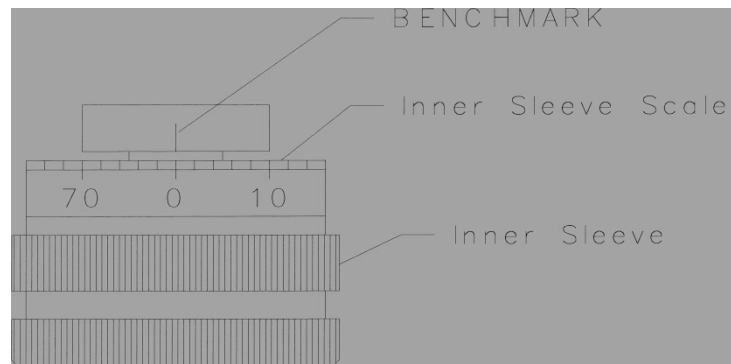

Fig. 10 Tool positioning knob
B Hold the tool positioning knob to keep it from turning and adjust the inner sleeve until zero or one of the reference numbers on the scale aligns to the benchmark located on the support block. See Figure 10. Repeat on the other positioning knob.
- 2 Slide the arbor into the spindle. Align the "O" marks on both until they are in line with each other as shown in Figure 10 and tighten the draw bolt.